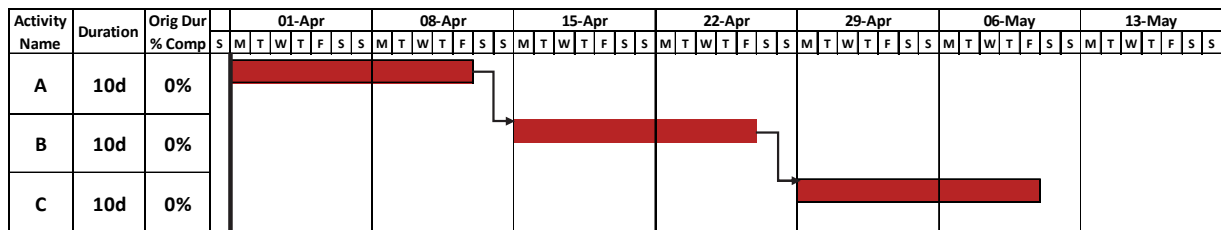

Figure 1 – Unprogressd without a baseline.
- Figures 1 to 11 were produced using Microsoft Excel 2016,
Before updating the schedule, the three activities shown in Figure 1 have no progress, and a simple schedule would look like this: